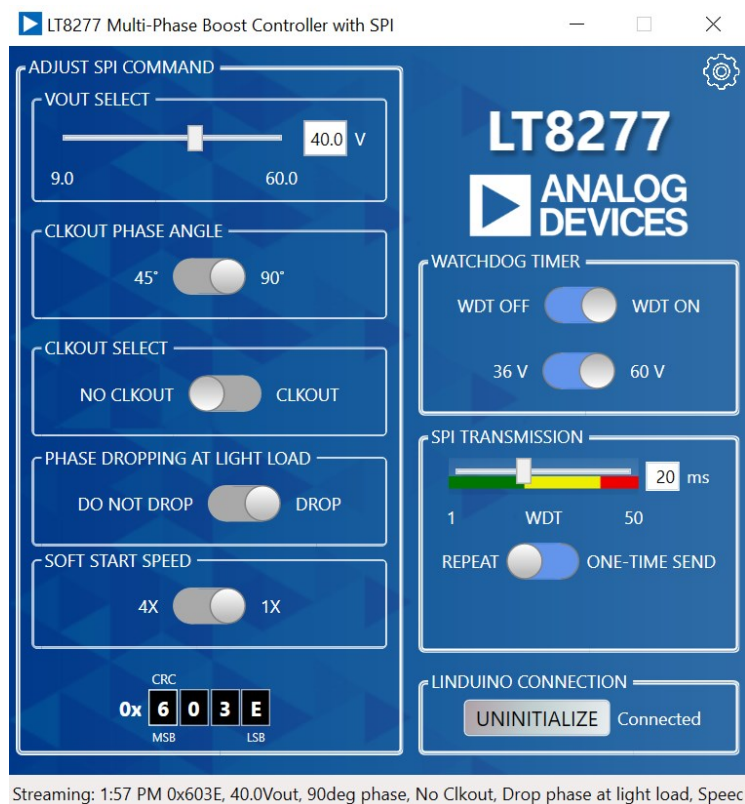

Figure 10. Repeat Sending Example
1. After GUI initialization and setup powered on, with EVAL-LT8277-AZ board JP3 set to “EXT_CTRL”, set GUI “Watchdog Timer” and “SPI Transmission” sections like figure 10, which turns on the WDT, and sends SPI command repeatedly with 20ms period. Select default WDT expires V_{OUT} voltage 36V or 60V.
2. Use the “Adjust SPI Command” section to set the desired SPI command. In Figure 10, the V_{OUT} select is adjusted to 40V.